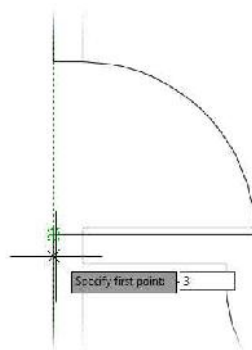

FIGURE 5.9: Starting the rear threshold
3. Start the LINE command, and place the cursor over the left corner of the lower jamb. Then, after the temporary tracking point cross appears inside the endpoint marker, move the cursor directly downward, as shown in Figure 5.9.